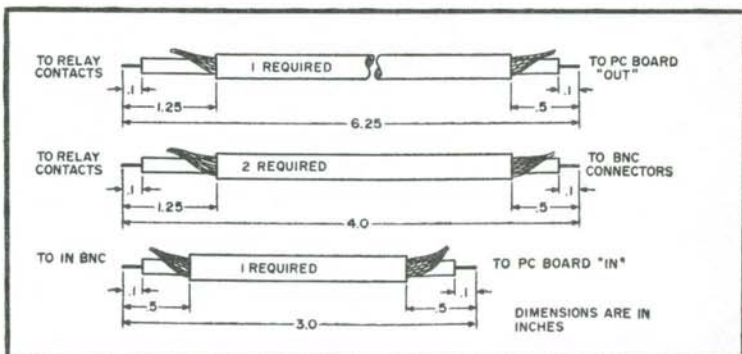

Fig. 6-61. RG-188 cable preparation.
12. Prepare four RG-188 cables as shown in Fig. 6-61.